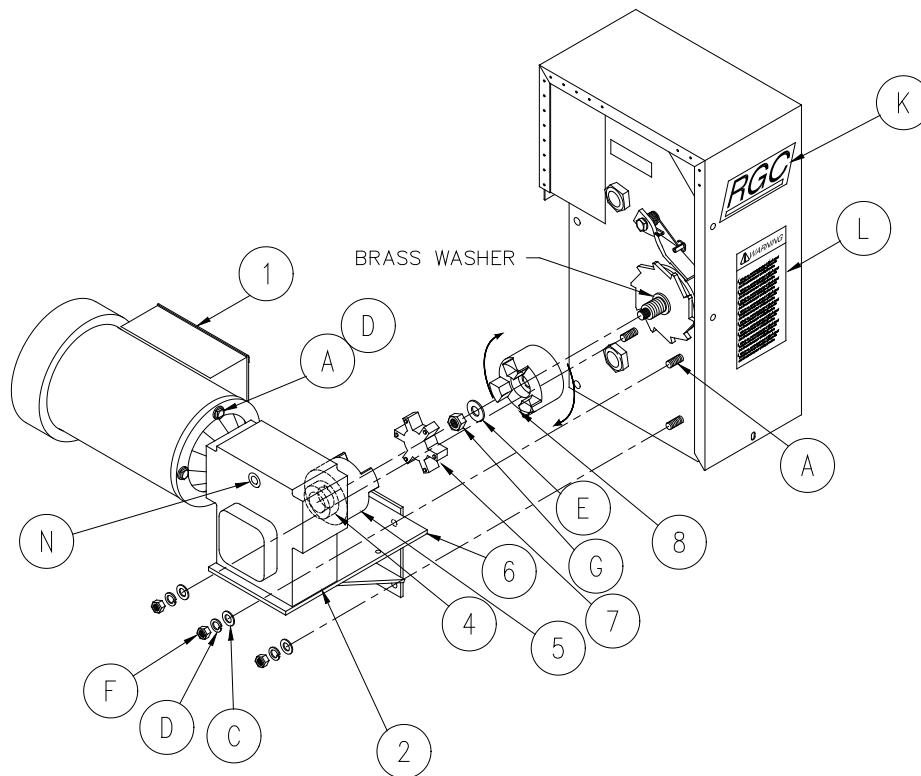

Figure 2-1
1. **Refer to Figure 2-1**, screw the acme coupler (8) clockwise onto the winch input shaft. The coupler must pinch the brass washer and brake sprocket tightly against the friction disk.
3. Install 1/2" washer (E) onto the end of the input shaft.
4. Install and securely fasten the 1/2"-20 locknut (G) onto input shaft. Tighten using a 3/4" socket/ratchet.
2. **Refer to Figure 2-1**, remove the 3/8 X 1" bolt, nut, and washer, from the direct drive mounting bracket.
7. Mount the direct drive assembly to the winch as shown. Re-install and hand tighten washers and nuts (removed in step 3) onto the winch supplied bolts. Install the 3/8 x 1" bolt (A), washers (C & D), and nut (F) supplied with mounting bracket, from the inside of winch wall to outside of mounting bracket. Lightly fasten.
9. Using a 9/32" wrench, remove from reducer the installed 1/8" shipping plug (red pipe plug). Install the vent plug (N) supplied with unit.